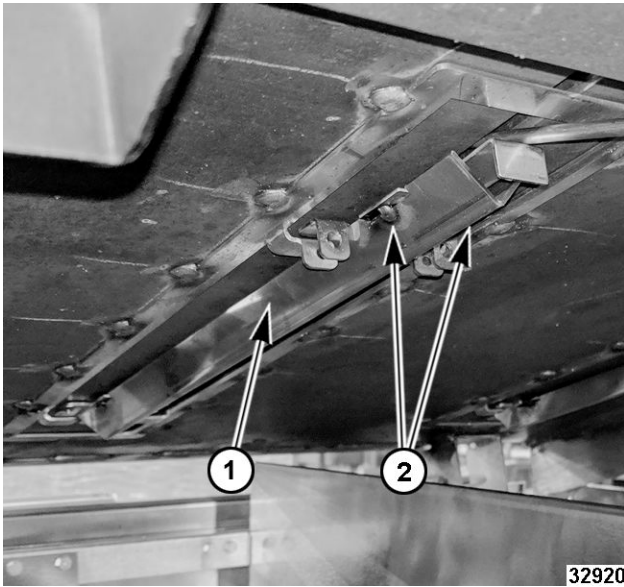

Fig. 112
12. Verify bulb is seated properly and shield (1, Fig. 112) is back in place, fasten tight with two screws (2, Fig. 112).